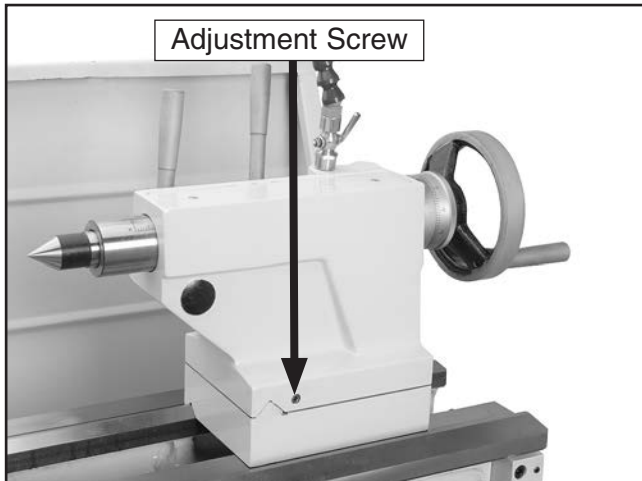

Figure 18. Tailstock adjustment locations.
8. Loosen the tailstock lock lever and adjust the tailstock offset by the amount of the taper by turning the adjustment set screw (**Figure 18**). Turn another 0.010" off of the stock and check for taper. Repeat as necessary until the desired amount of accuracy is achieved.